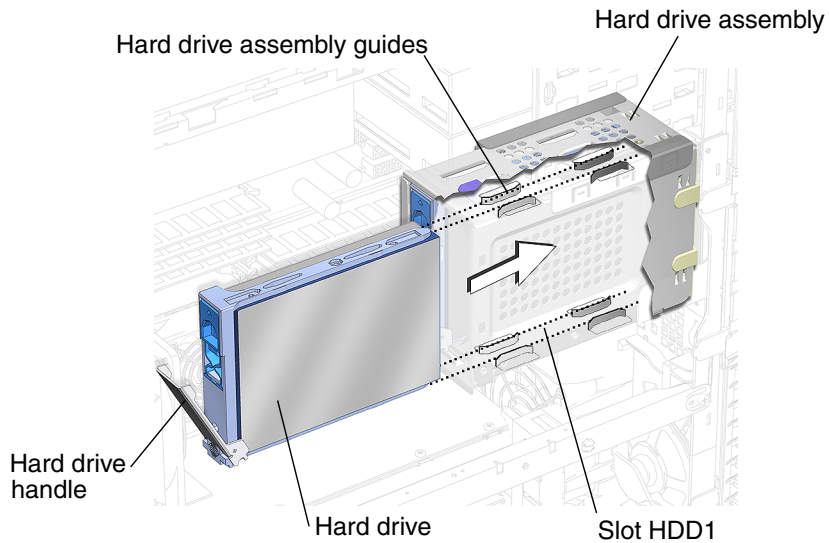

FIGURE 12-5 Aligning the Hard Drive to the Hard Drive Assembly
4. Locate the hard drive assembly and hard drive assembly guides (FIGURE 12-5).